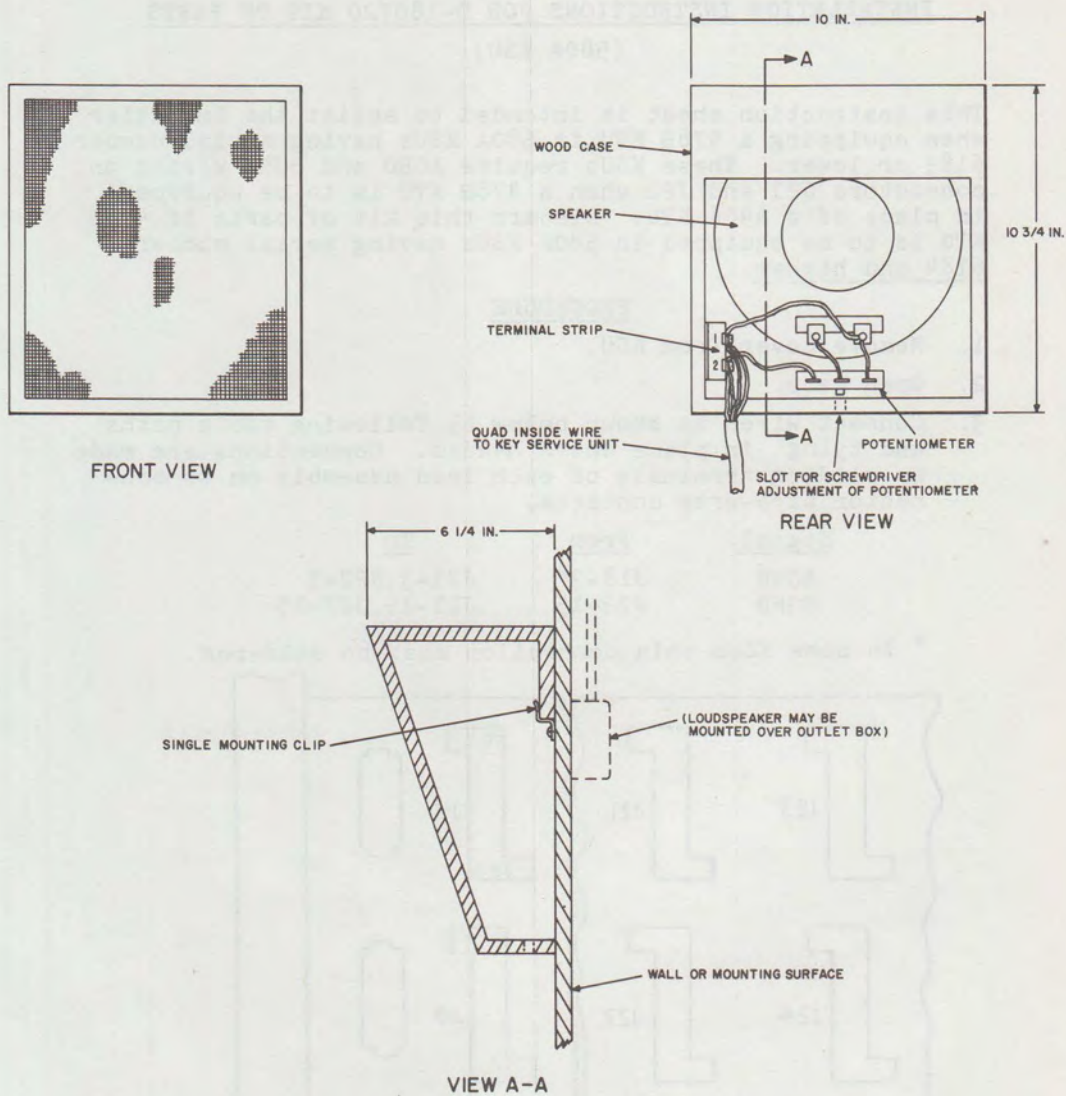

Fig. 12—KS-21880, L1 Loudspeaker, Connections and Mounting
2.19 The KS-21880,L1 loudspeaker (Fig. 12) is an indoor loudspeaker used for paging. It is 11 inches high by 10 inches wide by 6-1/2 inches deep. It has a potentiometer (with screwdriver adjustment slot) for volume control. The KS-21880,L1 loudspeaker is furnished with a walnut (woodgrain)